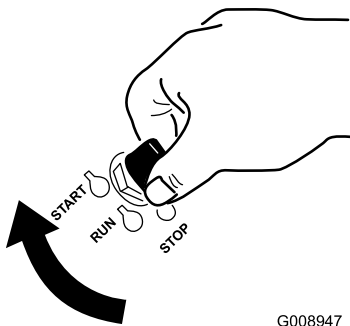

Figure 12
1. Turn the ignition key to the START position (Figure 12).
6. Turn the ignition key to the START position (Figure 12). When the engine starts, release the key.